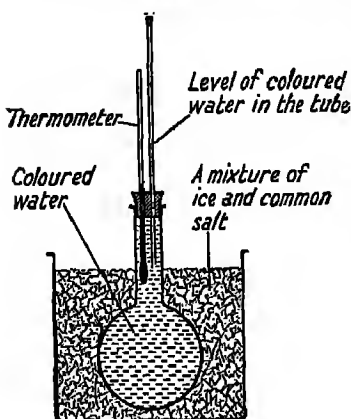

FIG. 230.
**Expt. 271.** To investigate the behaviour of water as it cools. Fit up the apparatus shown in Fig. 230. The flask is full of coloured water. Note the level of the column of water in the thin tube, and the temperature. Immerse the flask in a mixture of crushed ice and salt. As the temperature falls the level of the water in the tube falls. Note that somewhere about  $4^{\circ}\text{C.}$  the level of the water in the tube stops falling and after that, as the temperature falls, the level rises.